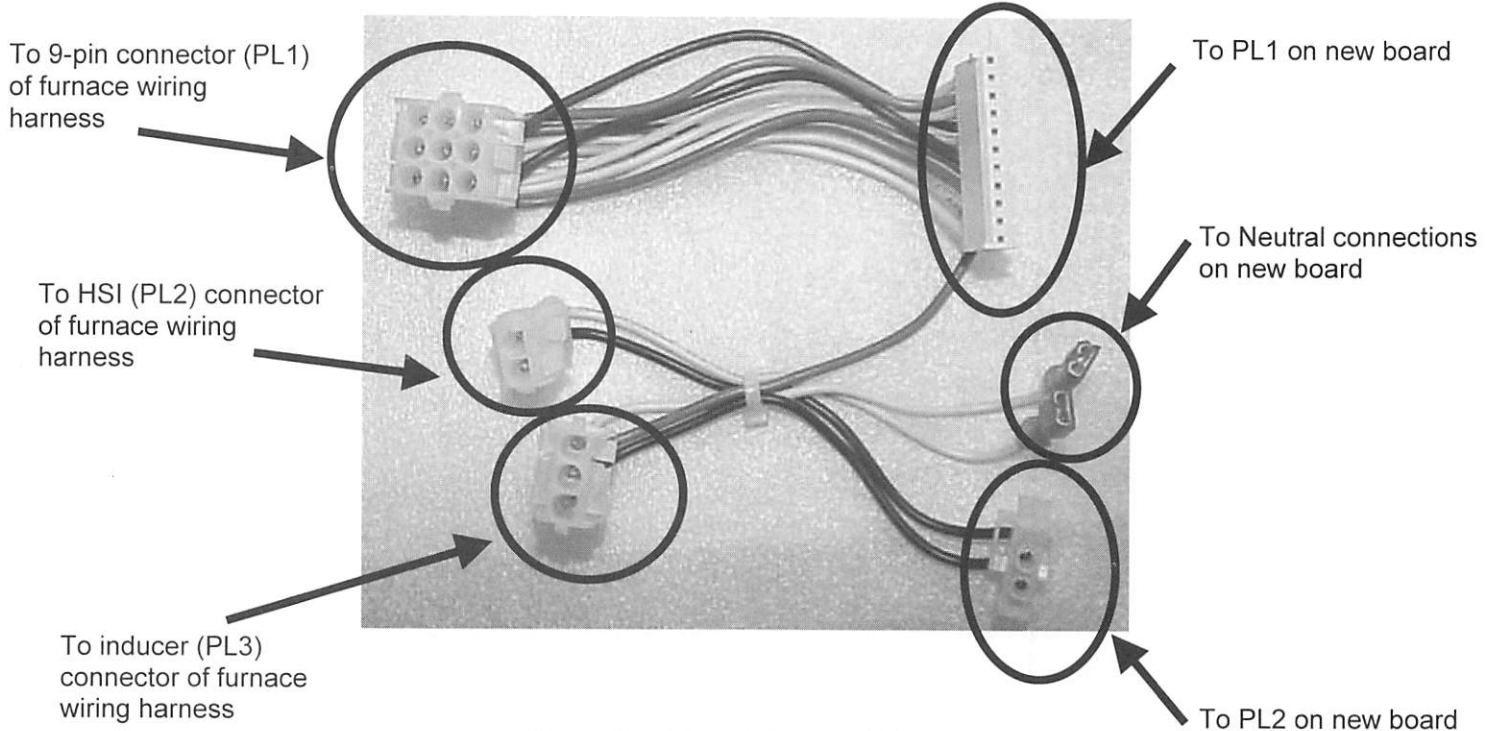

Figure 3 – Wiring Harness Adapter
3. Install furnace control board retaining screw(s). Install wiring harness adapter (part# 328151-701) to three connections of the existing furnace wiring harness (see Fig. 3).